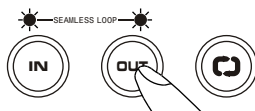

Fig.7
- c- Press OUT/EXIT button again for new desired ending point of the loop (figure 7).